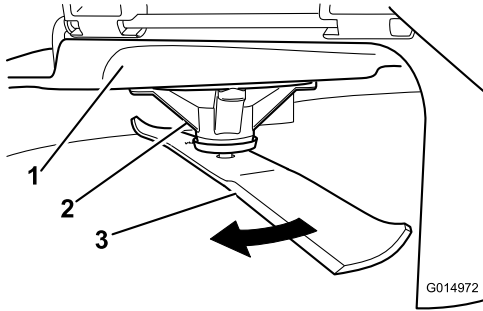

Figure 104
2. While wearing thickly padded gloves, or other adequate hand protection, slowly rotate the blade into a position that allows you to measure the distance between the cutting edge and the level surface the machine is on (Figure 104).